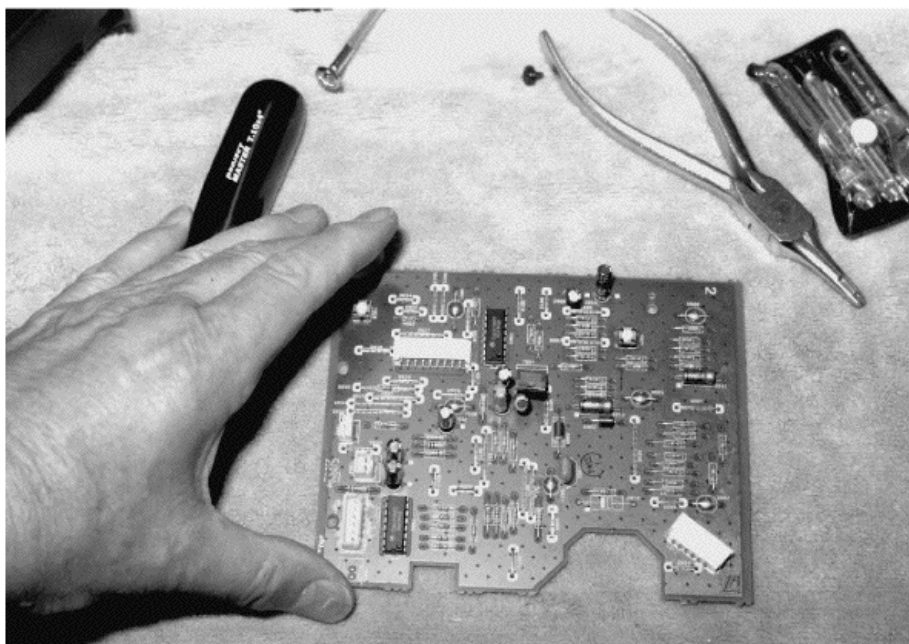

FIGURE 29-17 Locate the control IC and the components that include the infrared remote-sensor circuits on the PC board.
- The disc-set indicator shows the number of discs in the magazine (Fig. 29-17).
- The error (I) display indicates an error in disc loading. Check the disc. The No Disc display indicates that no disc is in the magazine or turntable.